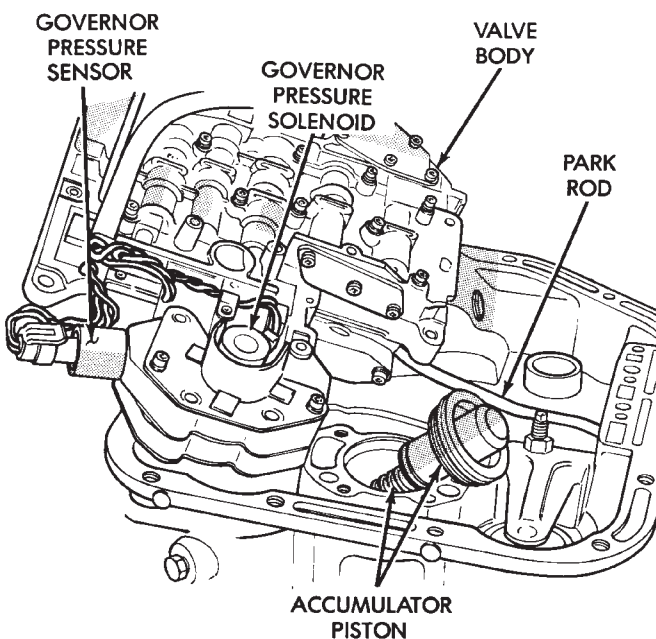

Fig. 11 Valve Body Removal
- (16) Remove valve body assembly. Push valve body harness connector out of case. Then work park rod and valve body out of case (Fig. 11). **Exercise care**
(17) Remove accumulator piston and inner and outer springs (Fig. 11).